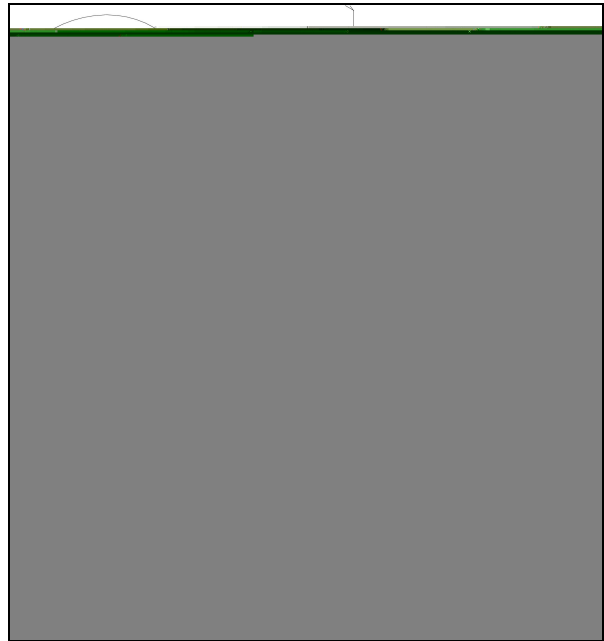

Fig 1
18. Turn the machine to the home position. install the stop bolt assembly (A). Pull the stop bolt tight against the stop wheel, and lock up the machine. Continue holding the stop bolt tightly against the stop wheel and tighten screws (B) in Fig 1.